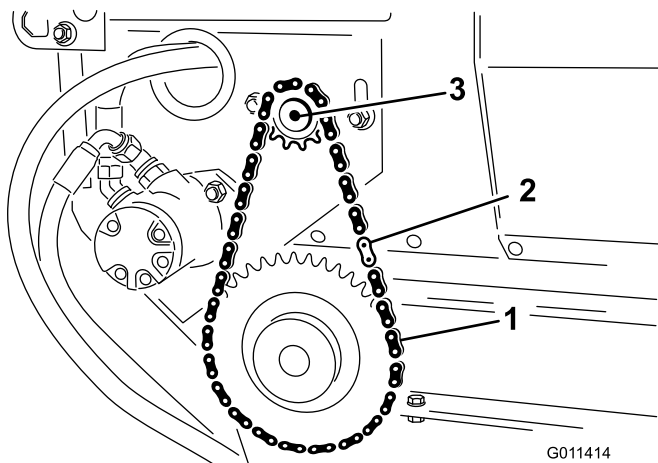

Figure 30
2. Remove master link from chain and remove chain from small sprocket (Figure 30).